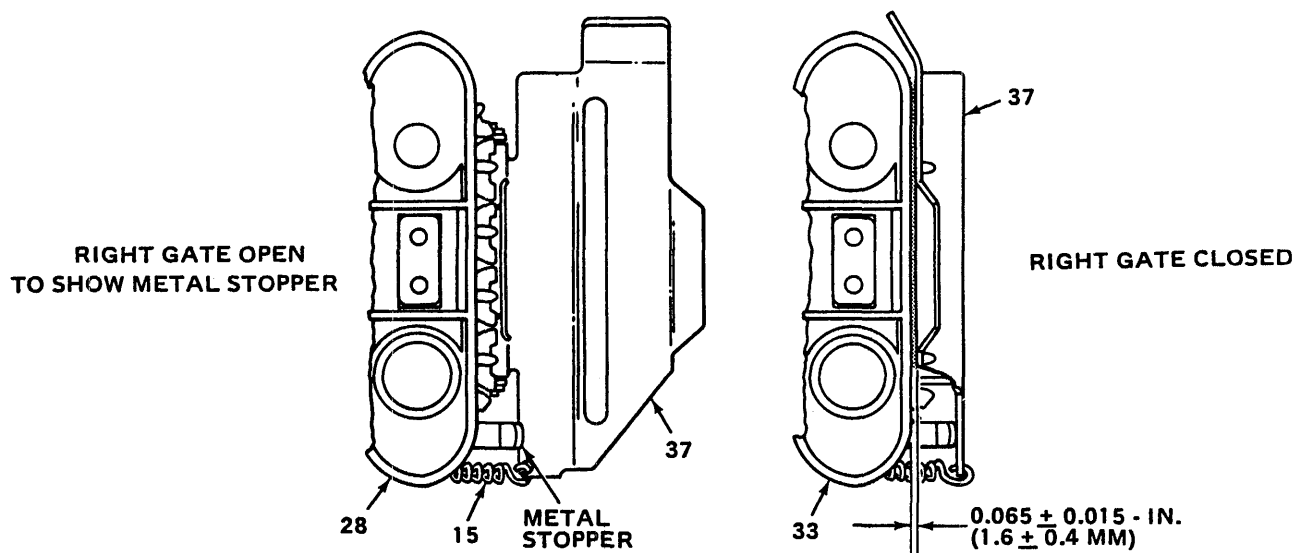

Figure 5-11. ADJUSTMENT FOR PAPER HOLDER GATE
- A. Paper Holder Gate (Left and Right) (12, 37) (Fig. 5-11)